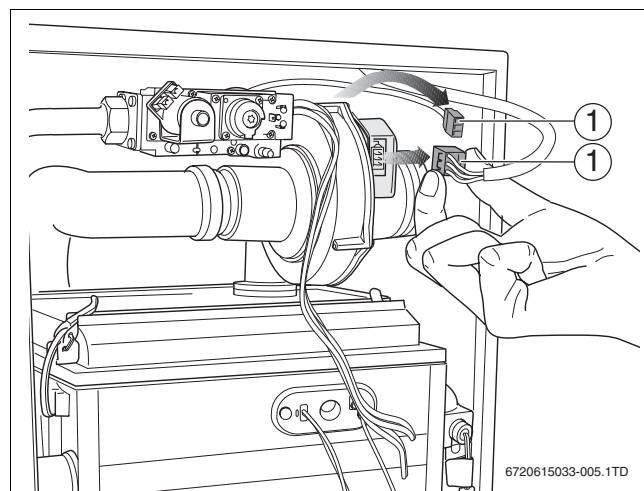

Fig. 4 Removing the connectors from the fan
- Pull both plugs from the fan unit (→ fig. 4, [1]).